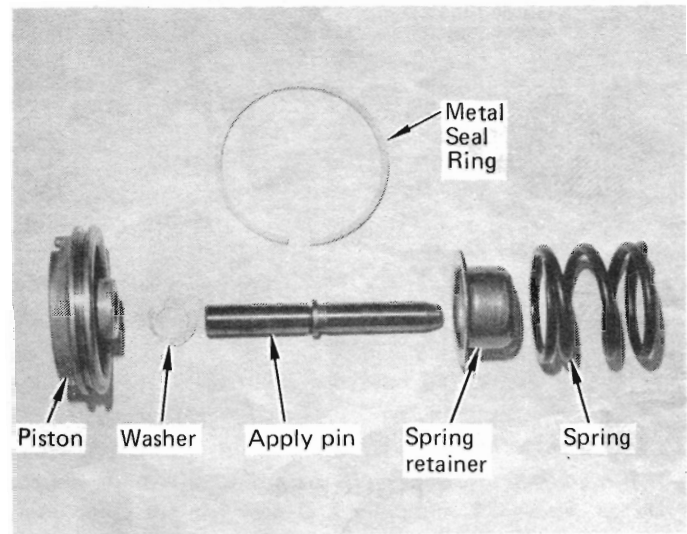
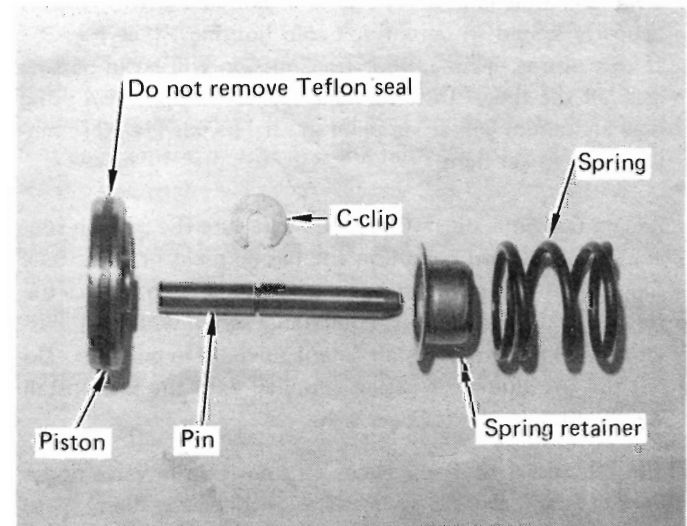

FIGURE 52
FIGURE 53
STEP 24. Install new metal seal ring on the intermediate servo piston if it originally had a metal ring. (See Fig. 52) Do not remove teflon seals. (See Fig. 53) Lubricate seal with automatic transmission fluid and install servo assembly into case. (See Fig. 7)